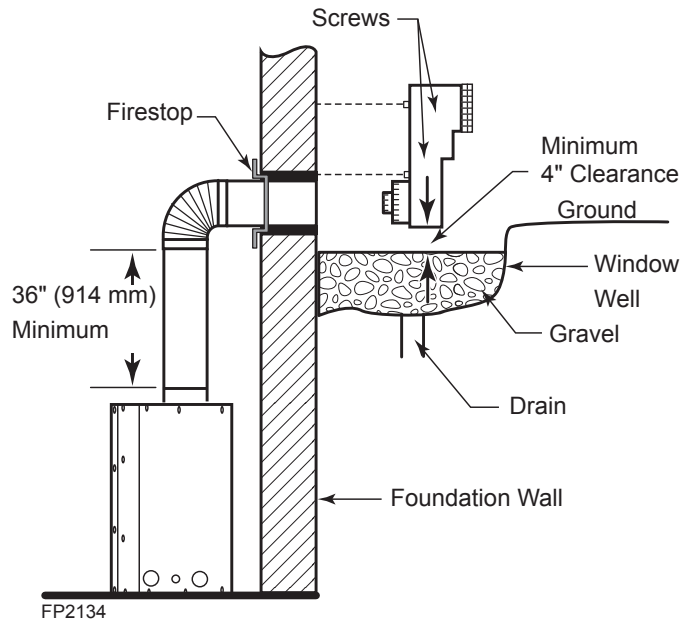

Figure 22 - Below Grade Installation
2. Remove soil to a depth of approximately 16" (406 mm) below base of snorkel. Install drain pipe. Install window well (not supplied). Refill hole with 12" (305 mm) of coarse gravel leaving a clearance of approximately 4" (102 mm) below snorkel. Figure 22